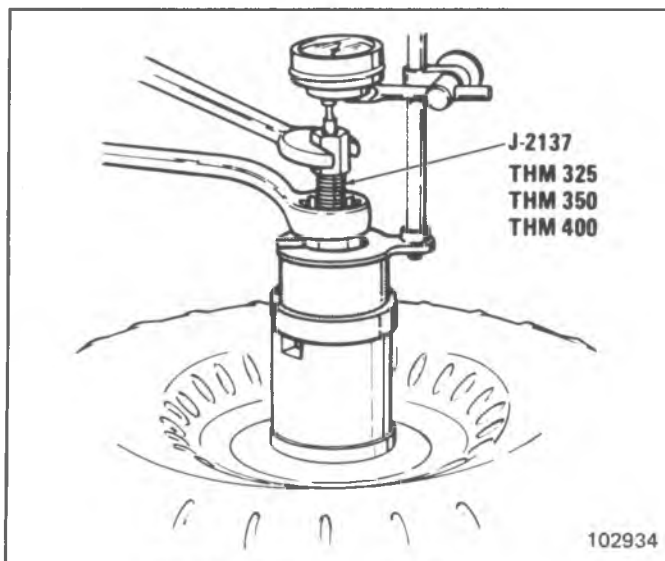

Fig. 7A-18--Checking End Clearance
N·m (3 ft. lbs.) Figure 7A-18).
- b. Install dial indicator and set it at zero while its plunger rests on the cap nut of tool (Figure 7A-18).
- c. Loosen hex nut while holding cap nut stationary. With hex nut loose and holding tool J-21371-3 firmly against the converter hub, the reading obtained on the dial indicator will be the converter end clearance. End clearance should be less than 0.127 mm (0.0050"). If the end clearance is greater, the converter must be replaced (Figure 7A-18).